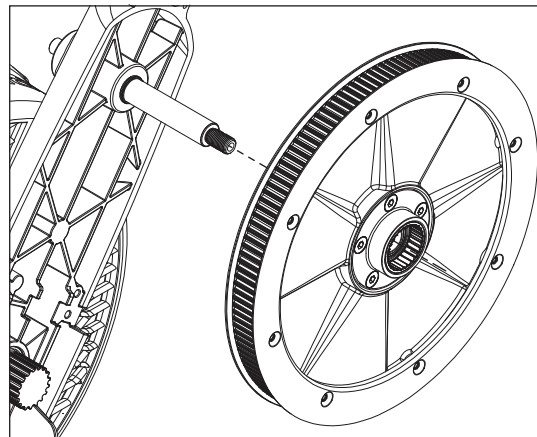

FIGURE 6.1
3. Slide the Pulley assembly off the shaft. (Figure 6.1)
1. Slide the Pulley assembly onto the shaft. (Figure 6.1)